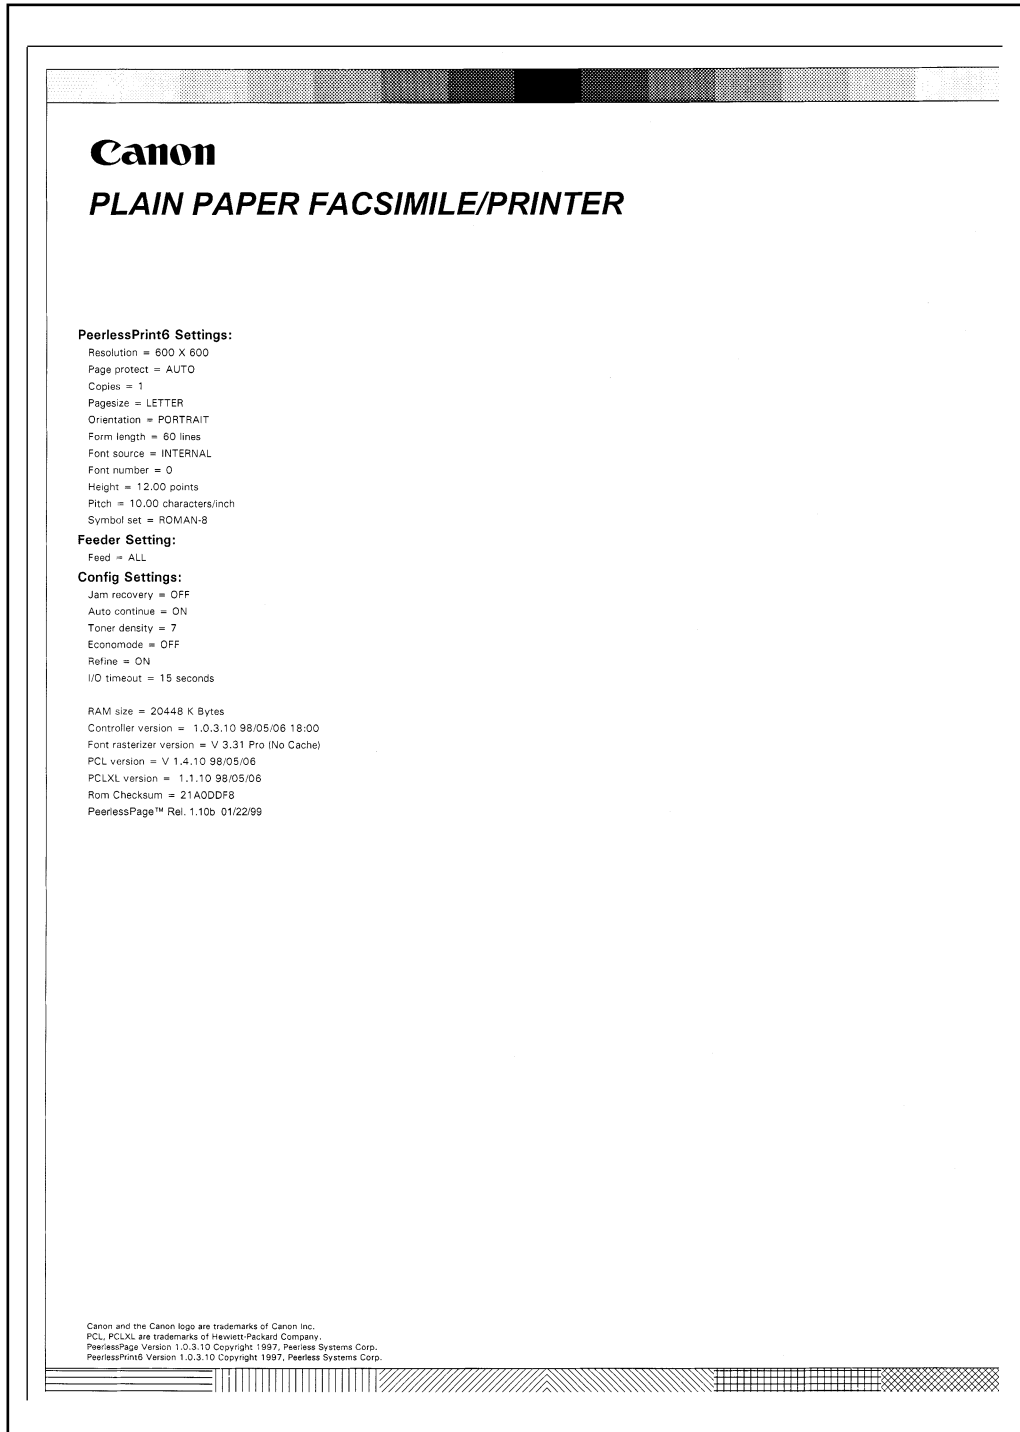

Figure 1-403
- FORM FEED** This procedure prints any data remaining in the receive buffer on the PCL board. This may occur if the application software program does not send a form feed (FF) or if the printer is taken off line during a print job.
- TEST PRINT** This procedure is to perform a Test print. The Test print performs three important tasks that confirm the printer is operating correctly. See figure 1-403 sample test print.